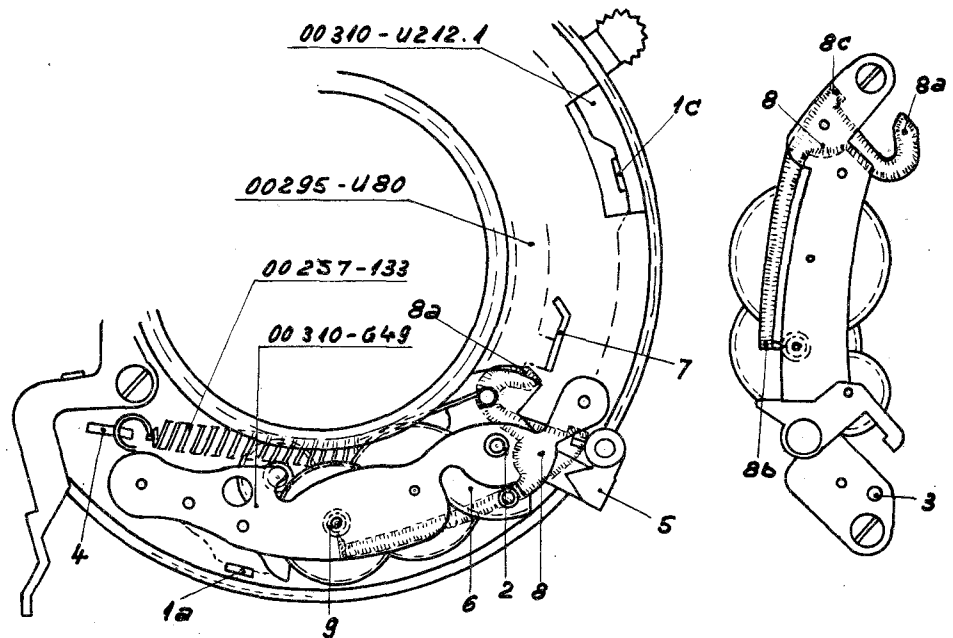

Fig. 10a
(1) In the Prontor SV shutter, part of the delayed-action device intended for selftiming purposes is used as a synchronizing device serving to take care of the inherent time lag of flash equipment. The synchronizing device is rendered operative by setting the synchro switch ring at the yellow mark. In this position, some of the elements of the mechanism are disengaged from the remaining elements. With the synchro switch ring set at the red mark, however, all elements of the delayed-action device are in their operative positions of engagement.
(2) In contrast to the Pronto and Prontor-S shutters, the delayed-action device is not arranged for pivotal movement but is rigidly mounted on the base plate. The device is held in position by sliding it over the peg 2 which is secured to the base plate and by means of another peg 3 protruding from the underside of the delayed-action device, the latter peg being fitted into a bore provided in the base plate. - To remove the delayed-action device from the shutter, first remove the front plate and the time setting ring, then disengage the spring of the delayed-action device from its anchor 4 (Fig. 10a).